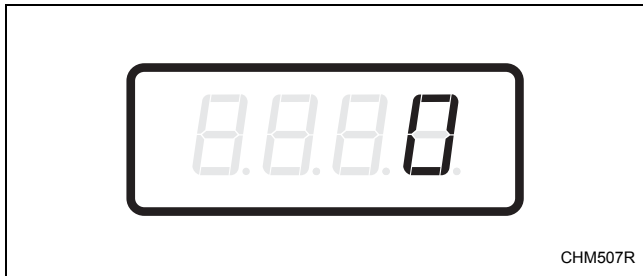

Figure 9
2. When “SA12” appears in the display, press the START (enter) keypad. There are five digits in the Special Vend A No Heat Price. The fifth digit will appear in the display and will flash one second on and one second off. Refer to *Figure 9*.